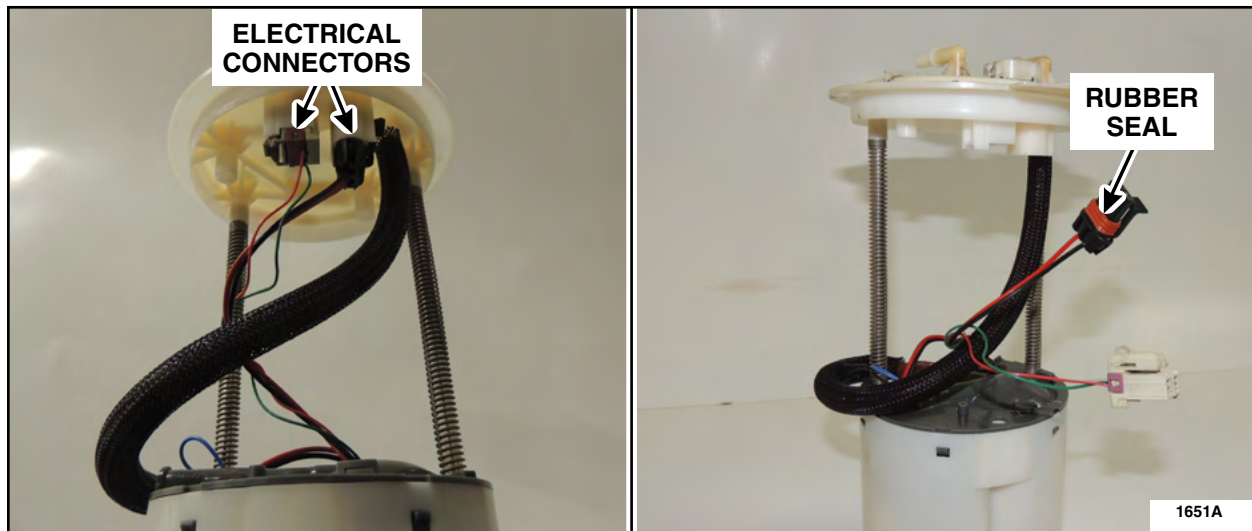

FIGURE 2
3. Disconnect the FDM electrical connectors. See Figure 2.
11. Connect the FDM electrical connectors. See Figure 2.